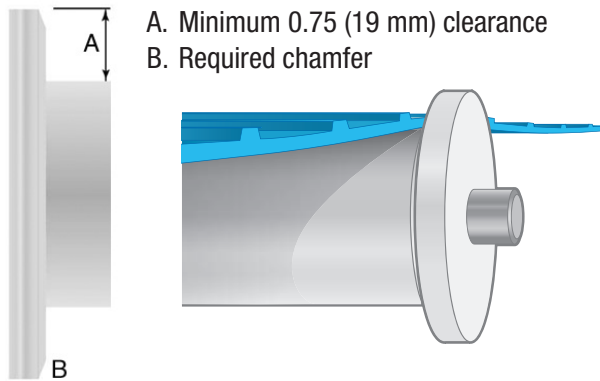

Figure 37
- ◇ When using flanged rollers, ensure a minimum 0.75 in (19 mm) flange height at belt edges (Figure 37, A). This provides a minimum 0.5 in (13 mm) vertical height above the belt surface.
- ◇ Ensure inside flange edges are chamfered (Figure 37, B) to minimize belt wear.